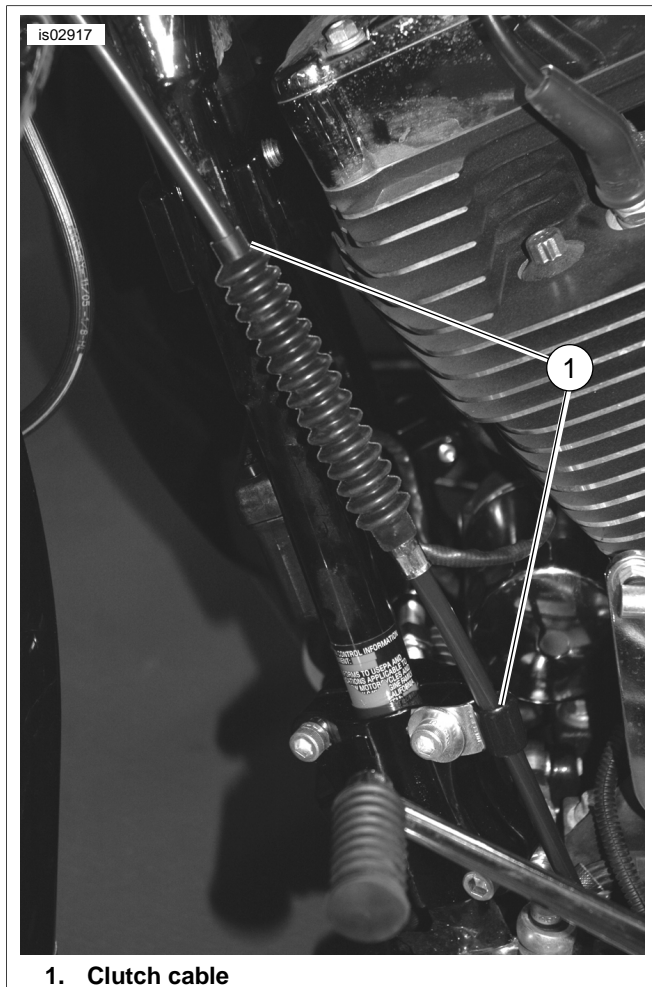

Figure 1. Route Cable Down Along Left Frame Tube (Left Side Shown)
3. See Figure 1. Continue to route clutch cable down along left frame downtube.